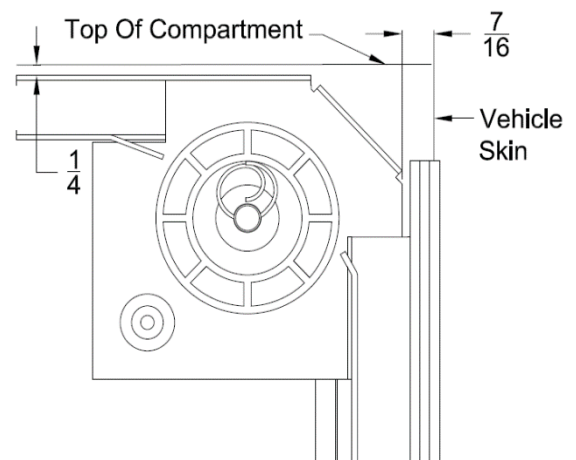

Fig. 1
- Looking into the compartment, place the pennant plate right hand pennant plate label in the top right of the compartment as shown in Fig. 1. Make sure it is $\frac{1}{4}$ " from the top of the compartment and $1\text{-}\frac{5}{8}$ " from the vehicle skin. Match drill the plate and track with an $1\frac{1}{64}$ " drill.